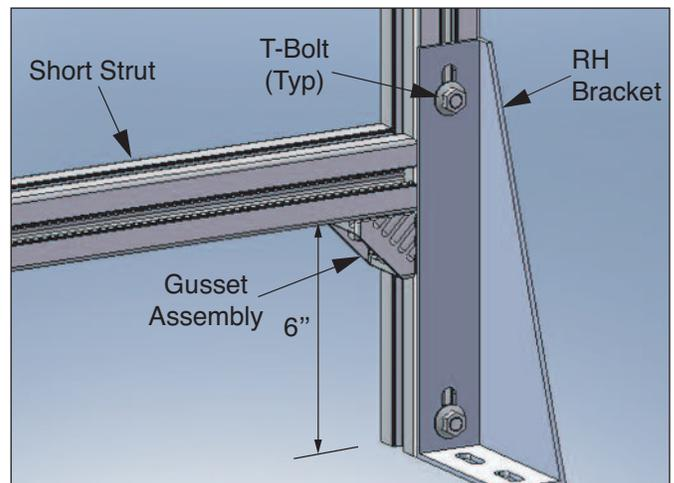

Fig. 3: Bracket Location and Assembly
5. Measure and mark each Long Strut 6" from the bottom. Position the Short Strut between the Long Struts with the Gussets oriented downward as shown in Figure 3. The bottom of the Short Strut should be aligned with the marks on the Long Struts. Install a T-Bolt and nut through each Gusset and into the channel of the Long Strut. Tightening the nut will cause the bolt to turn clockwise 90°. Tighten the nut and confirm that the T-Bolt rotated 90° and is fully engaging the channel of the strut.
- Place the long side of the Left and Right Brackets on the bottom of the Wall Frame Long Struts as shown in Figure 3. The short side of each bracket should be flush with the bottom of each strut. Install two T-Bolts and nuts through each bracket and into the channels of the struts. Tightening the nut will cause the bolt to turn clockwise 90°. Tighten the nut and confirm that the T-Bolt rotated 90° and is fully engaging the channel of the strut.